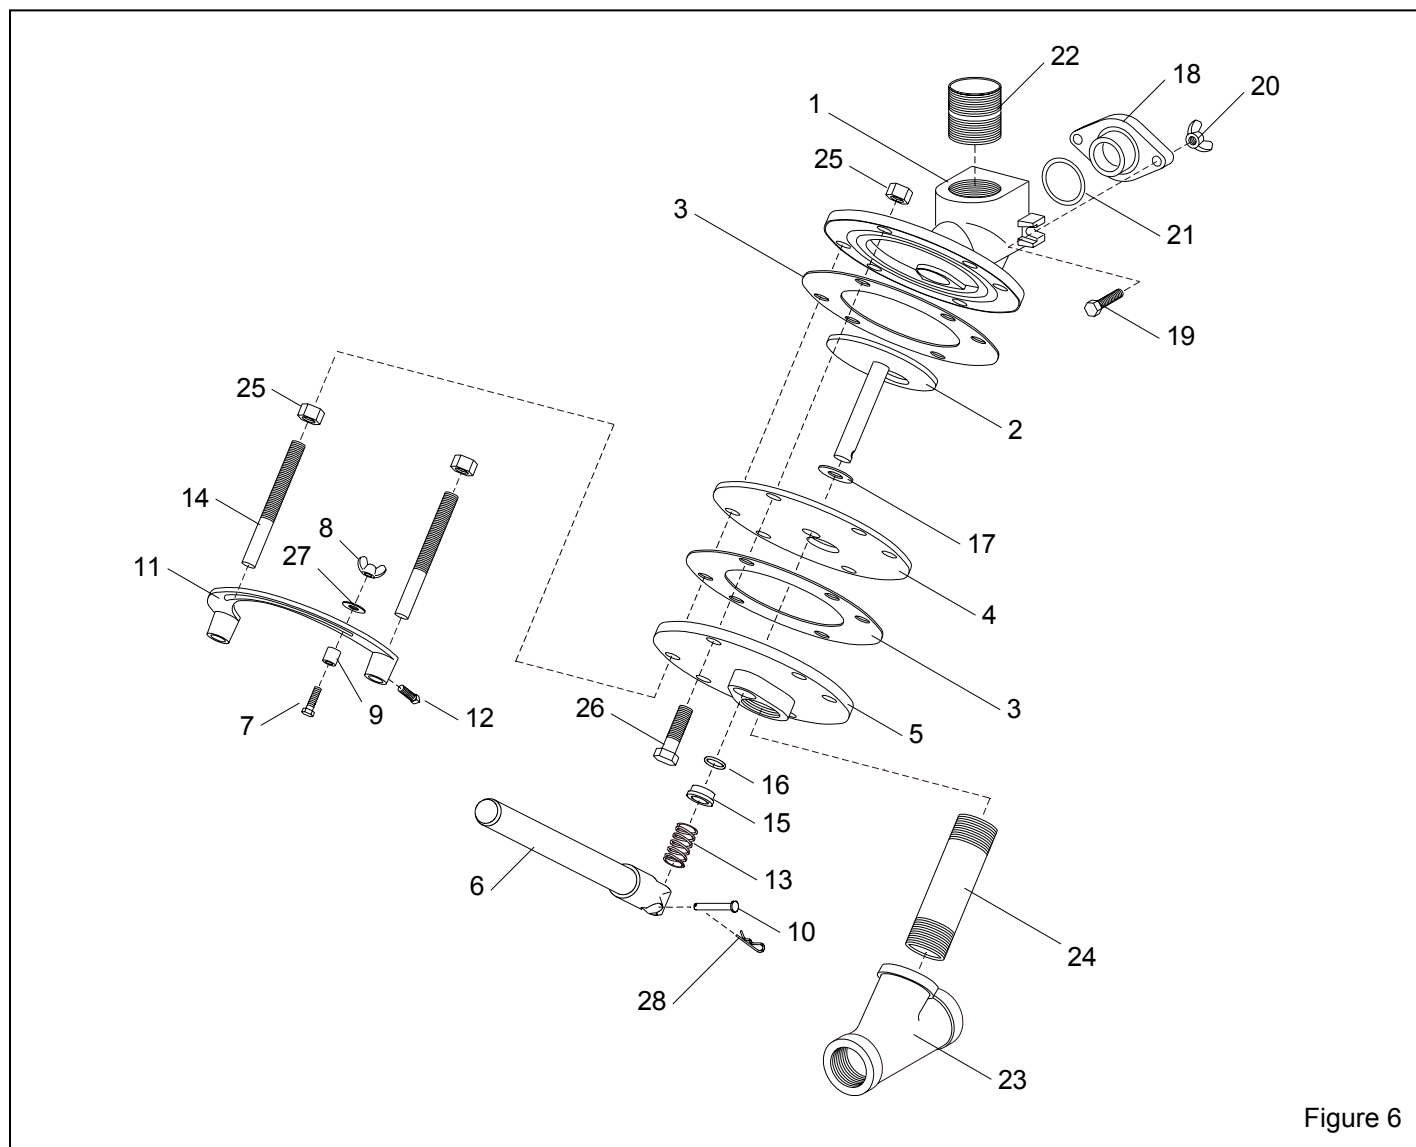

Figure 6
7.3 FSV Abrasive Metering Valve, Figure 6